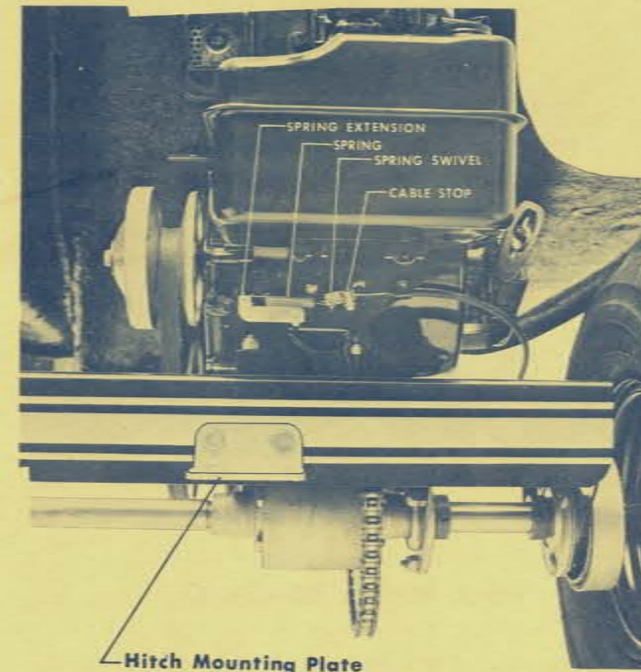

Figure 3
1. Check to see that the throttle control is in the idle position and that the engine throttle linkage is in the full idle position. If not, see maintenance and adjustment sections. (See Fig. 3).